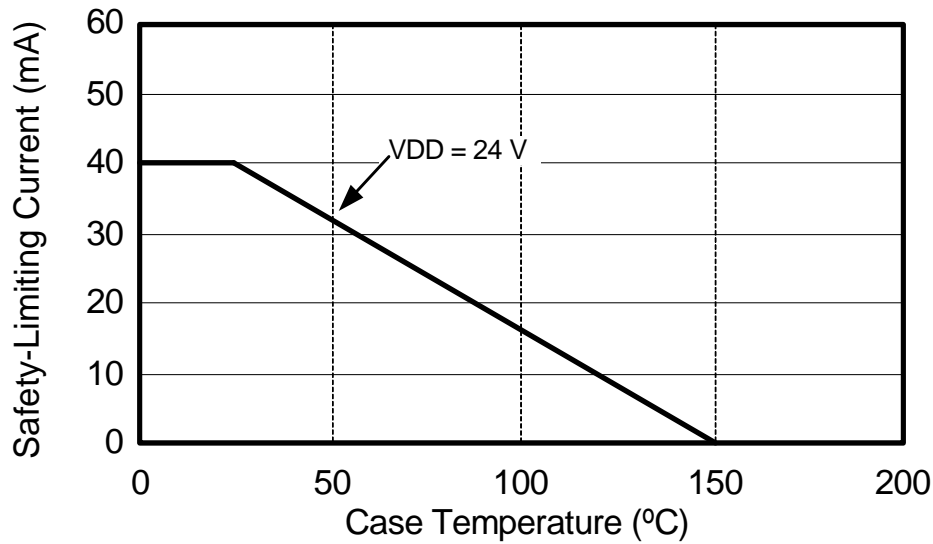

Figure 4. (NB SOIC-8) Thermal Derating Curve, Dependence of Safety Limiting Values with Case Temperature per DIN EN 60747-5-2
- Maximum value allowed in the event of a failure; also see the thermal derating curve in Figures 4 and 5.